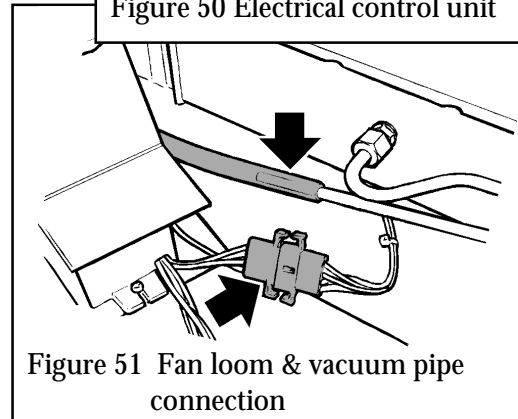

Figure 51 Fan loom & vacuum pipe connection
15.9.3 Detach the fan wiring loom connection. (see figure 51).
15.9.4 Detach the plastic vacuum tube from the metal vacuum pipe (see figure 51).